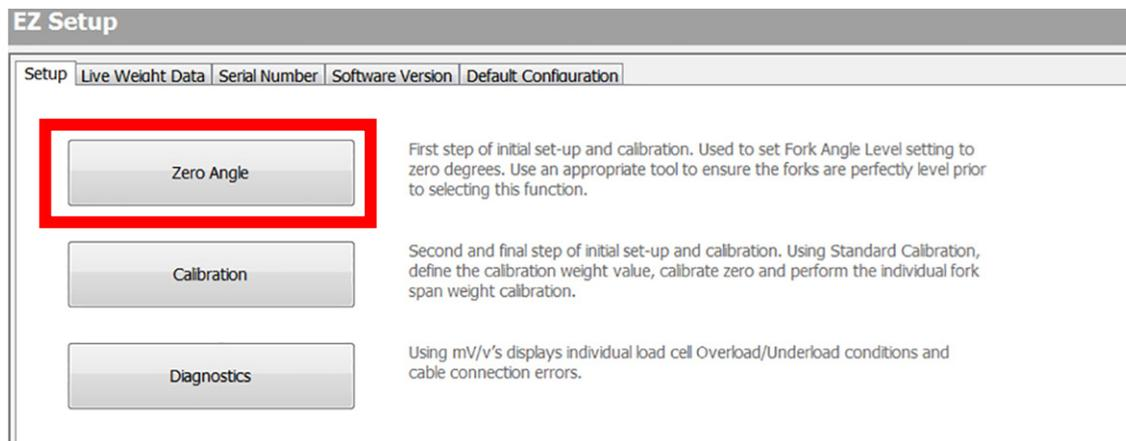

Figure 5-1. Zero Angle
2. In the setup screen, press **Zero Angle** (Figure 5-1).
3. A prompt appears as shown in (Figure 5-1). Press **OK** to close the pop-up box.